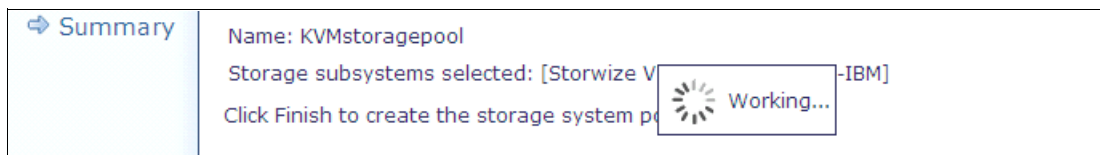

Figure 9-63 Storage system pool creation
6. Wait until the storage system pool is created as shown in Figure 9-63.